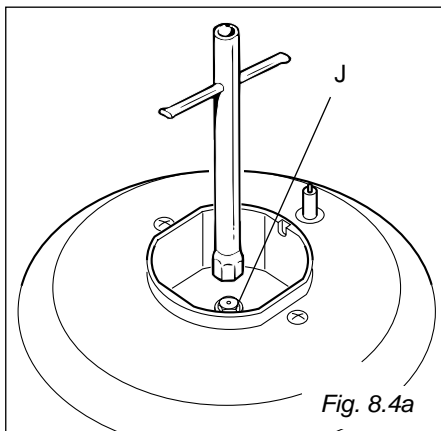

Fig. 8.4a
- Using a wrench, substitute the nozzle injectors "J" (fig. 8.4a, 8.4b) with those most suitable for the kind of gas for which it is to be used.